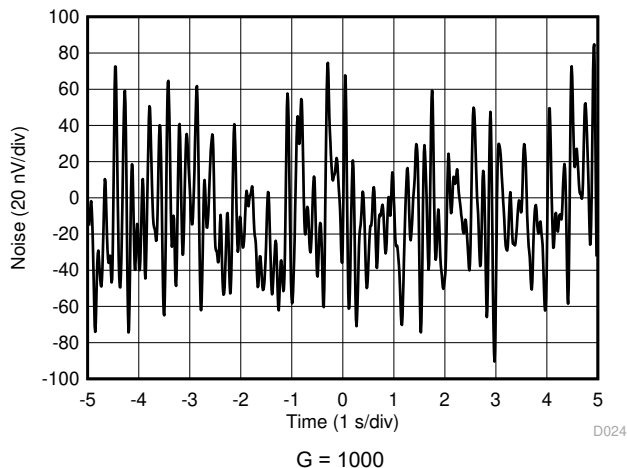

Figure 7-25. 0.1-Hz to 10-Hz RTI Voltage Noise
0.1-Hz to 10-Hz RTI Voltage Noise, $G = 1000$	Figure 7-25